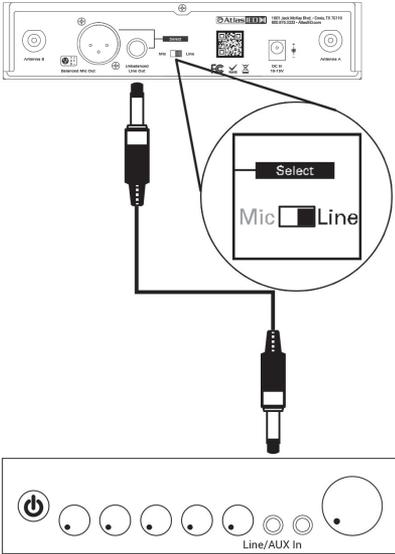
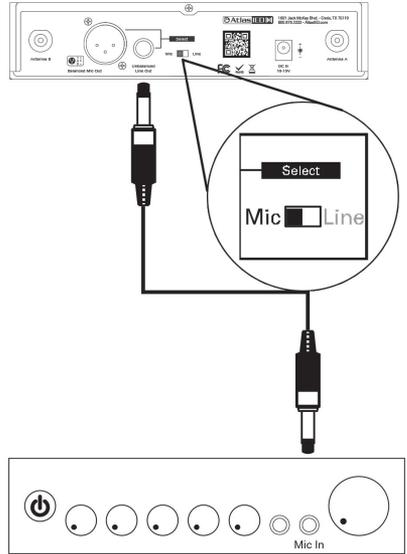

Figure 18
Figure 19
**Level Switch Setting:** When connecting to the LINE / AUX IN of a mixer / amplifier, switch to "LINE" position (Fig 18). DO NOT use the "MIC" position as they may not deliver a sufficient output level. When connecting to the "MIC IN" jack of a mixer / amplifier, switch to "MIC" position (Fig 19). Distortion may occur at the wrong level position.